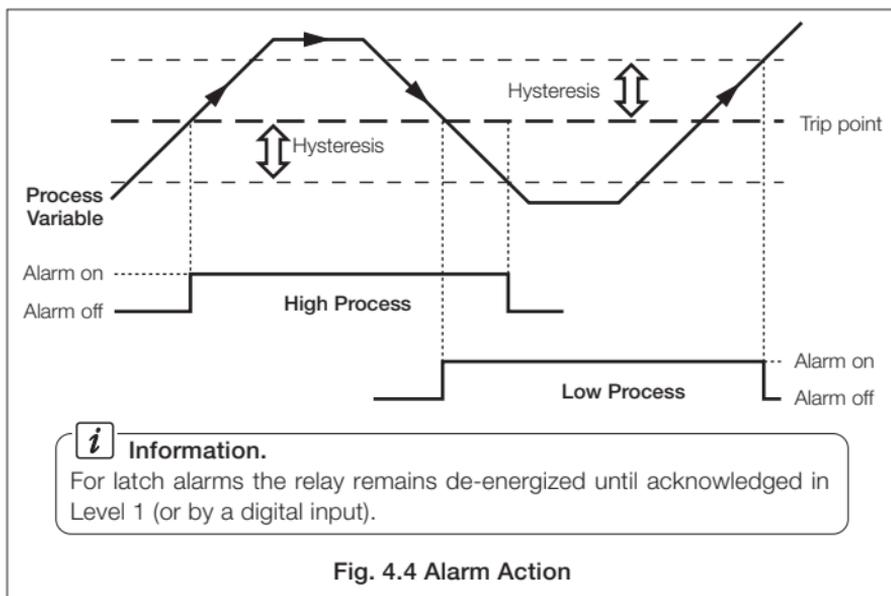

Fig. 4.4 Alarm Action
4.3.2 Alarms – Figs. 4.4 and 4.5